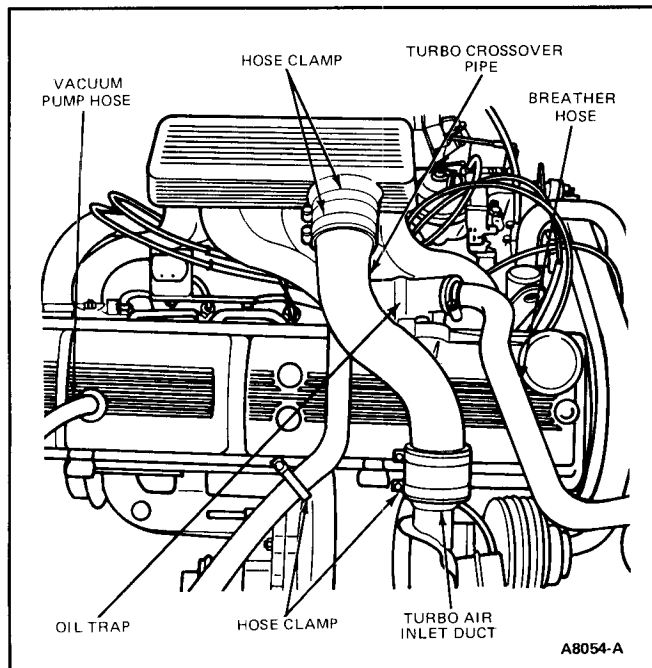

FIG. 11 Turbo Crossover Pipe
- Loosen turbo crossover pipe boot clamps and remove pipe (Fig. 11).
- Disconnect vacuum pump hose (Fig. 11).
5. Loosen clamp at turbo crossover pipe boot (Fig. 11).